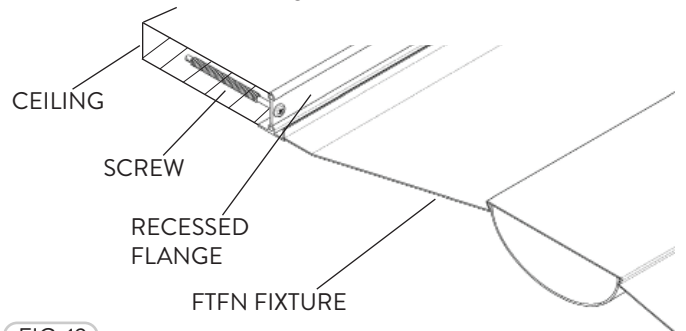

FIG. 19
- 3 If the drywall Ceiling is at least 1" thick, then the Drywall Flange frame can be fastened from the sides. See 'cut-out' below. Mounting Screws are not included (Fig. 19).